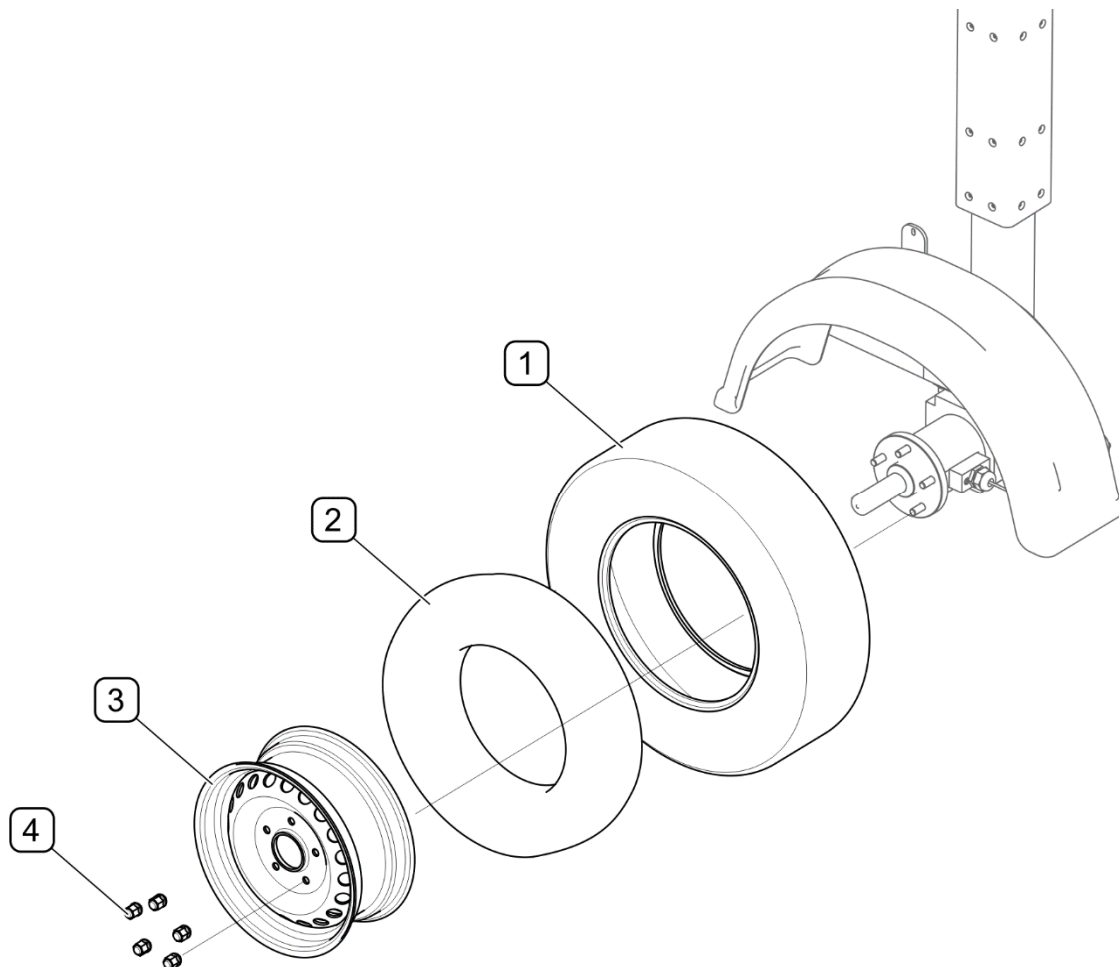

FIG. 5.14 Pump drive wheel
Nuts (4) of pump drive wheel (FIG. 5.14) should be tightened with torque of 120 Nm.